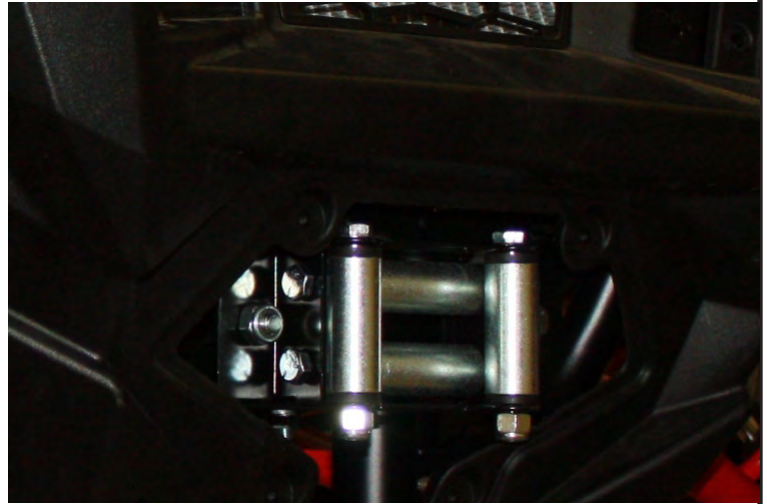

Figure 4
5. Figure 4 shows the Roller fairlead attached to the bracket after the bracket was installed, it is easier to do before the plastic is reinstalled.